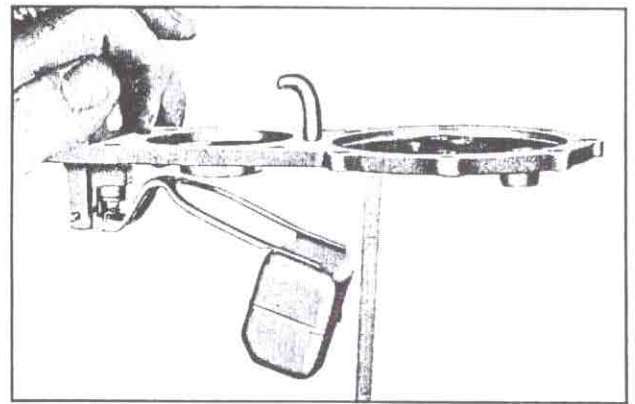

Fig. 145—Measuring Float Drop
b. **Float drop.** Holding the cover upright, measure the distance from the bottom of the cover to the lowest point on the float (fig. 145). Correctly adjusted, this distance would be  $2 \frac{27}{32}$ ". Bend float tang to adjust, if necessary.